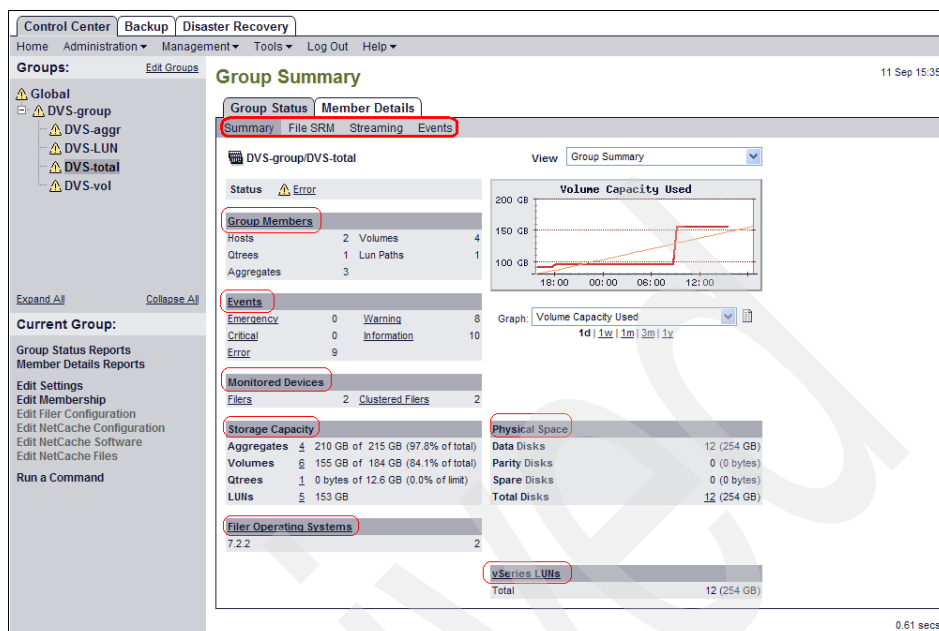

Figure 10-17 Group Summary Report
3. Click the group that you defined in step 1, and a Group Summary report is displayed, as shown in, Figure 10-17 on page 372.
In the Group Summary Report, shown in Figure 10-17, we can see the Group Members. In this example, we have two hosts, four volumes, one qtree, one LUN Path, and three aggregates. You can also check the Group Members to obtain detail member information.